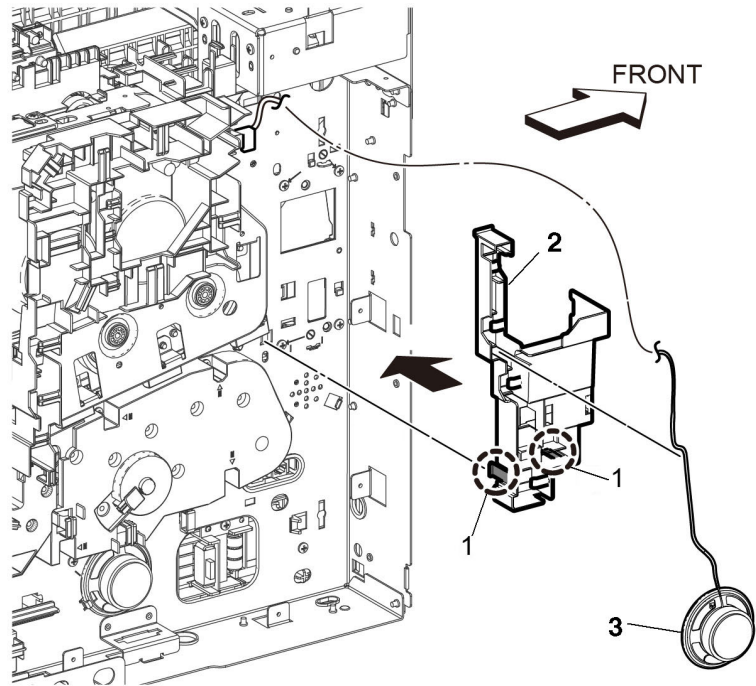

Figure 3 Release the main speaker harness
31. Release the main speaker harness, **Figure 3**:
- Release two hooks (1) of the duct harness guide (2), then slightly lift up the duct harness guide and the main speaker (3).
- Release the harness of the main speaker (3) from the duct harness guide (2).
- Install the duct harness guide (2) to the installed position.
33. Remove the DC harness guide, **Figure 3**:
- a. Disengage the connector **P/J468** (1).
- b. Release three hooks (2) of the DC harness guide, then remove the DC harness guide.